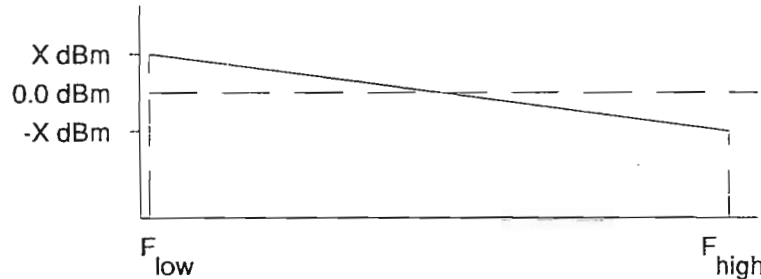

Figure 3-11 Low Frequency and High Frequency Location
FIGURE REFERENCES: Figure 3-11
12. Verify Step 10 output is as much above 0.0 dBm as Step 11 output is below 0.0 dBm. (Refer to Figure 3-11.) If two output magnitudes match and are opposite in sign, continue with next Range.